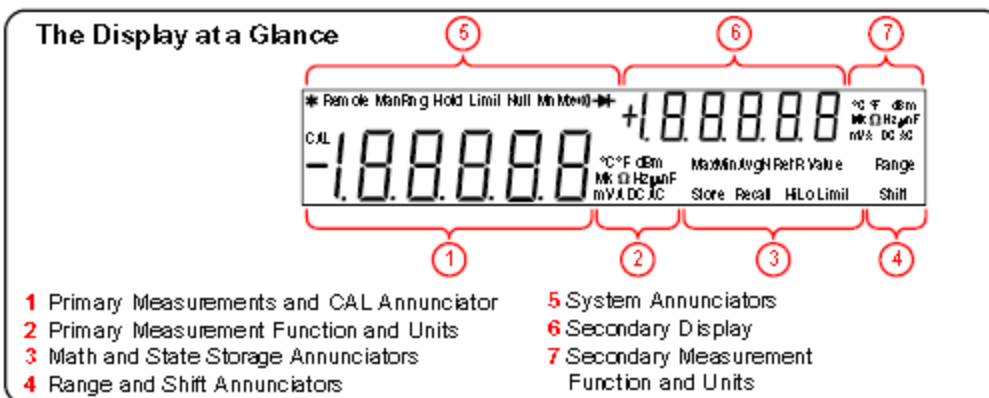

Figure 2. The Display of the Agilent Technologies 34405A Multimeter
1. Display. The overall features of the Display are indicated in Figure 2. The Primary Measurements section shows the numerical results of the measurement. The Primary Measurement Function and Units indicates what function the Multimeter is measuring and the appropriate units. The Secondary Display shows the range and additional measurement values. The Secondary Measurement Function and Units also indicates what function the Multimeter is measuring in the secondary mode and the appropriate units. There are System Annunciators and Range and Shift Annunciators.